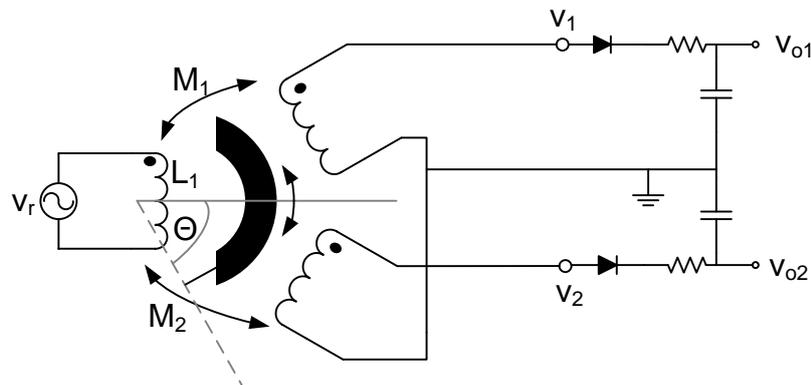

Figure 4: Double-sided rectifier with low-pass filter.
- (e) In stead of a phase sensitive detector, it is also possible to connect the output signal of the RCDT to a double-sided rectifier with a low-pass filter as is shown in Figure 4. Is it possible to reconstruct from the output signal ($v_{o2} - v_{o1}$) the direction (positive or negative angle)? (Explain your answer.)